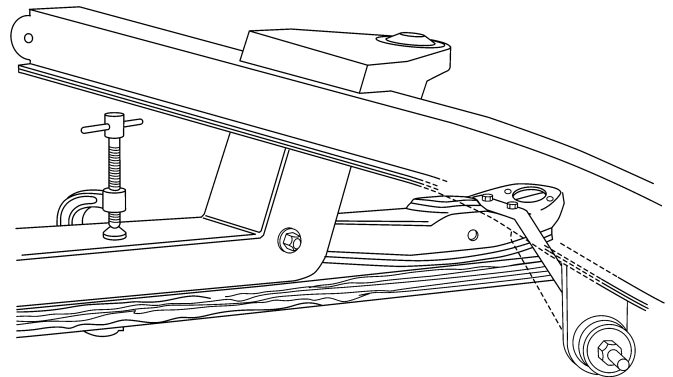

Figure 7
9. Install the strut rod onto the control arm. Now, assemble onto the strut rod the large rubber bushings, including the cupped washers, and the strut mount plate. Be certain to fully tighten the nut on the strut rod to its fully seated position. (See Figure 7) There are two rubber bushing sets available; the standard replacement and the improved set. We recommend the improved set, as it provides more stability to the front suspension. The Pinto and Mustang strut rods are different lengths. We recommend the use of Pinto strut rods, as they are bent less than the Mustang strut rods. You will find that with either strut rod the strut rod plate does not line up with the bottom of the frame rail. The strut rod must be heated in the elbow area and bent outward. The rod is bent outward until the strut mounting plate lines up to the frame rail. You will find that because the Pinto strut rod is initially bent less and requires much less bending. The strut rod will act as an alignment fixture while you tack weld the mount plate in place, then tack weld the gusset in place. Remove the strut rod, bushings, and arm, and finish welding to the frame and each other.